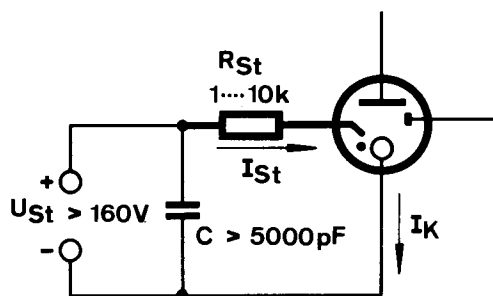

Fig. 5
4) Trigger capacitors of over 5.000 pF (e.g. in timer relays) need a current limiting resistor of 1 ... 10 kΩ in the starter circuit (Fig. 5).